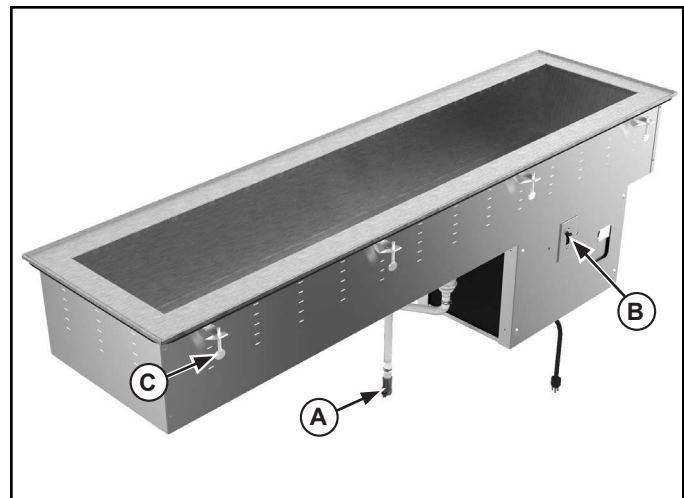

Figure 1. Features and Controls.
5. Tighten the thumbscrews (C) slowly and in an alternating pattern to evenly compress the gasket. See Figure 1. The gasket should create a even gap between the well and the mounting surface.
1. Check the drain valve (A) to verify it is in the CLOSED position to prevent water from draining out. See Figure 1. The valve is in the CLOSED position when the handle of the valve forms a “T” with the body of the valve.
3. Turn the power switch (B) to the “ON” position. This unit does not have an adjustable temperature setting. Allow the unit to run for approximately 30 minutes. For the best performance when using ice with this unit, allow unit to run for approximately 2 hours before adding ice. This will help the ice remain solid.